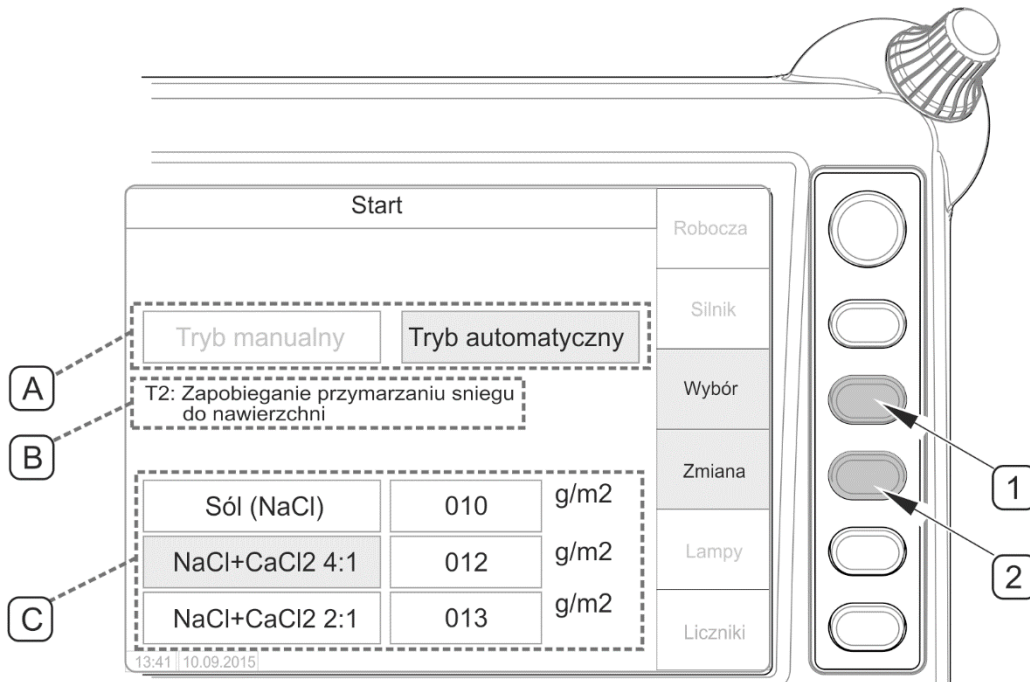

FIGURE 4.28 Selection of automatic mode (option)
- mark working mode type selection field (A) on „Start” home page of the control panel (FIGURE 4.28) by means of push-button (1),
- select "Automatic mode" by means of push-button (2) "Change",
- select one of the three defined modes T1,T2,T3 by means of push-button (1) "Selection",
- by means of push-button (1), mark field (C) and then, by means of push-button (2) „Change”, select (C) type of material to be spread that is currently in the tank (automatic mode can not be selected for „Sand”).